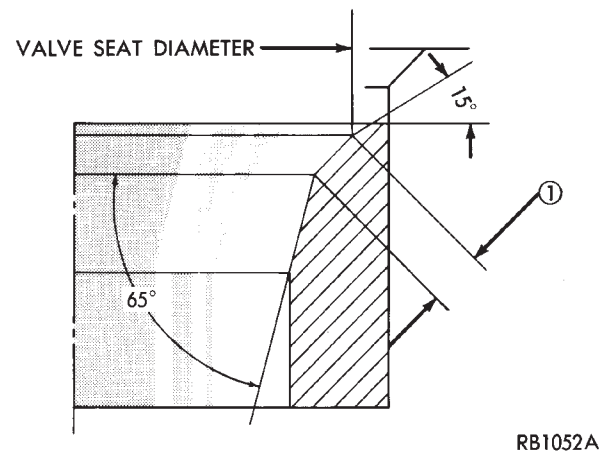

Fig. 23 Refacing Valve Seats
(6) When seat is properly positioned the width of intake seats should be 1.75 to 2.25mm (0.69 to .088 inch) The width of the exhaust seats should be 1.50 to 2.00mm (.059 to .078 inch) (Fig. 23 Dimension 1).
(7) Check valve tip to valve spring seat dimensions after grinding to seats or faces. Grind valve tip to give 49.76 to 51.04mm (1.960 to 2.009 inch) over valve spring seat when installed in the head (Fig.